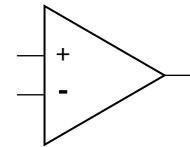

Figure 9.1: An op-amp.
An op-amp has two inputs, the inverting input (V^-) and the non-inverting input (V^+), and one output, as shown in figure 9.1 on the right. The fundamental relation governing the operation of an op-amp is that the output is the open loop gain (A) times the difference between these input voltages: